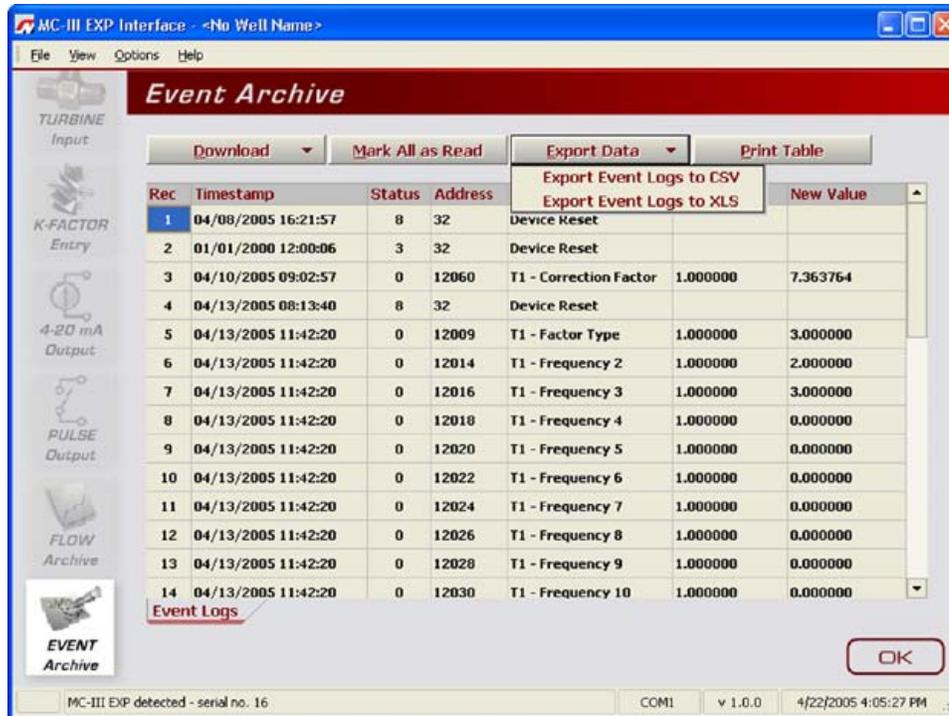

Figure 5.17—Dropdown menu for exporting log data
1. Click the “Export Data” button near the top of the Event Archive screen and select the .xls or .csv format (Figure 5.17, page 84).